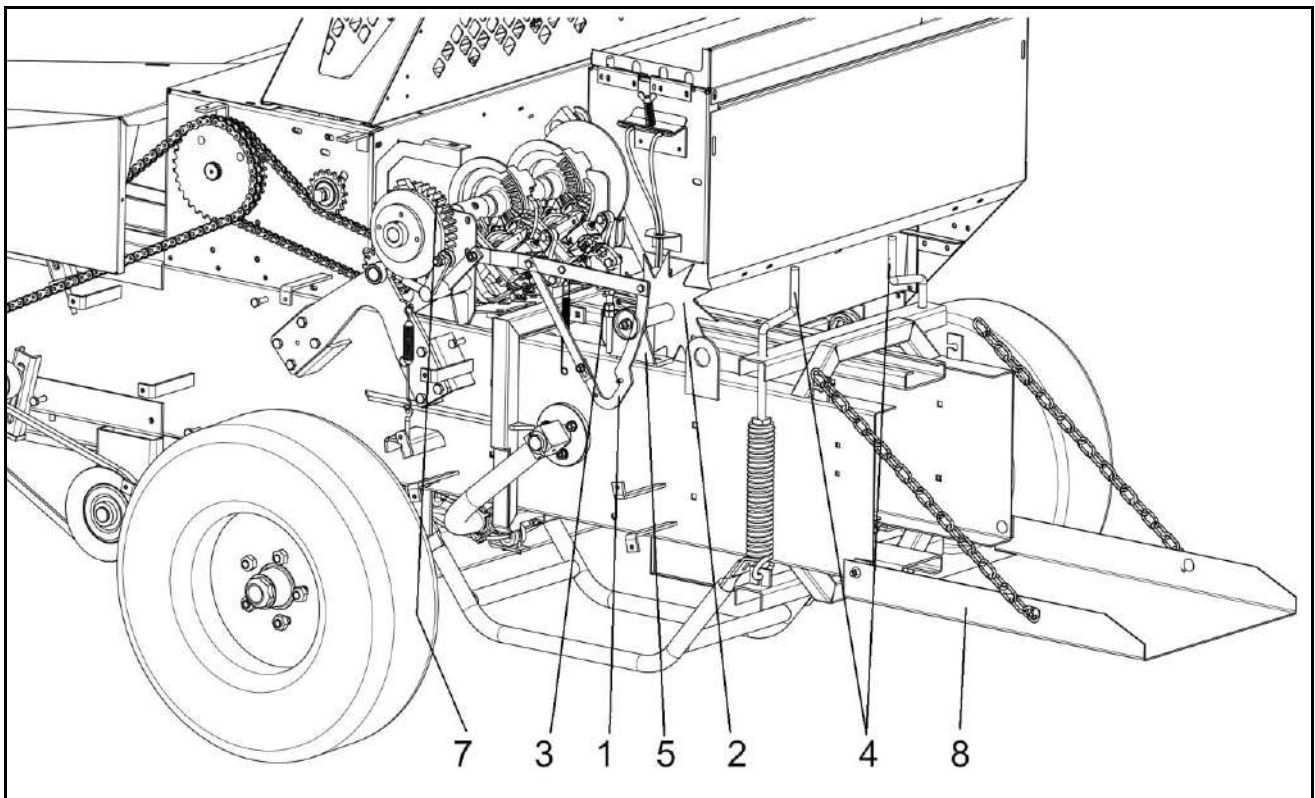

Fig. 5.10
- 4 Fully raise the lever 1 which can be seen in Fig. 5.10 by turning the toothed wheel 2 in Fig. 5.10 to engage the knotter.
Lower the bale discharge chute (no.8, Fig. 5.10) and reduce the tension of the bale chamber springs by adjusting the cranks 4 in Fig. 5.10.